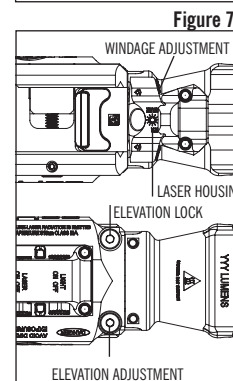

Figure 7
2. Make the necessary adjustments, using the included 5/64” Hex Wrench to tighten or loosen Windage and/or Elevation adjustment screws (Figure 7) below the laser, based on mounting position (from shooter’s perspective) and dot’s relation to weapon’s POA.
The socket head screw adjacent to the roll pin on the right side of the light body when viewed from the bottom is the elevation adjustment screw (Figure 7). The socket head screw adjacent to the roll pin on the left side of the light body when viewed from the bottom is the elevation adjustment screw lock. Back out the elevation adjustment screw lock with a 5/64” hex wrench until the threads are no longer visible when viewed from the side of the light. Do not fully back out the screw.